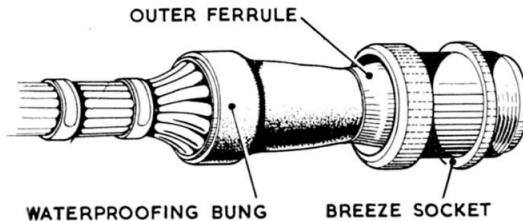

Fig. 4. Helvin waterproofing bung on a Breeze socket
14. When a bung is being fitted to a connection (fig. 4), two ferrules supplied with the connection must be fitted over the bell-shaped end of the bung sleeve, one ferrule fitting inside and the other fitting outside the sleeve. A flat sealing washer provided with the connection is then placed flat on the ferruled end of the sleeve and this end is then fitted inside and secured to the connection by the clamping nut.